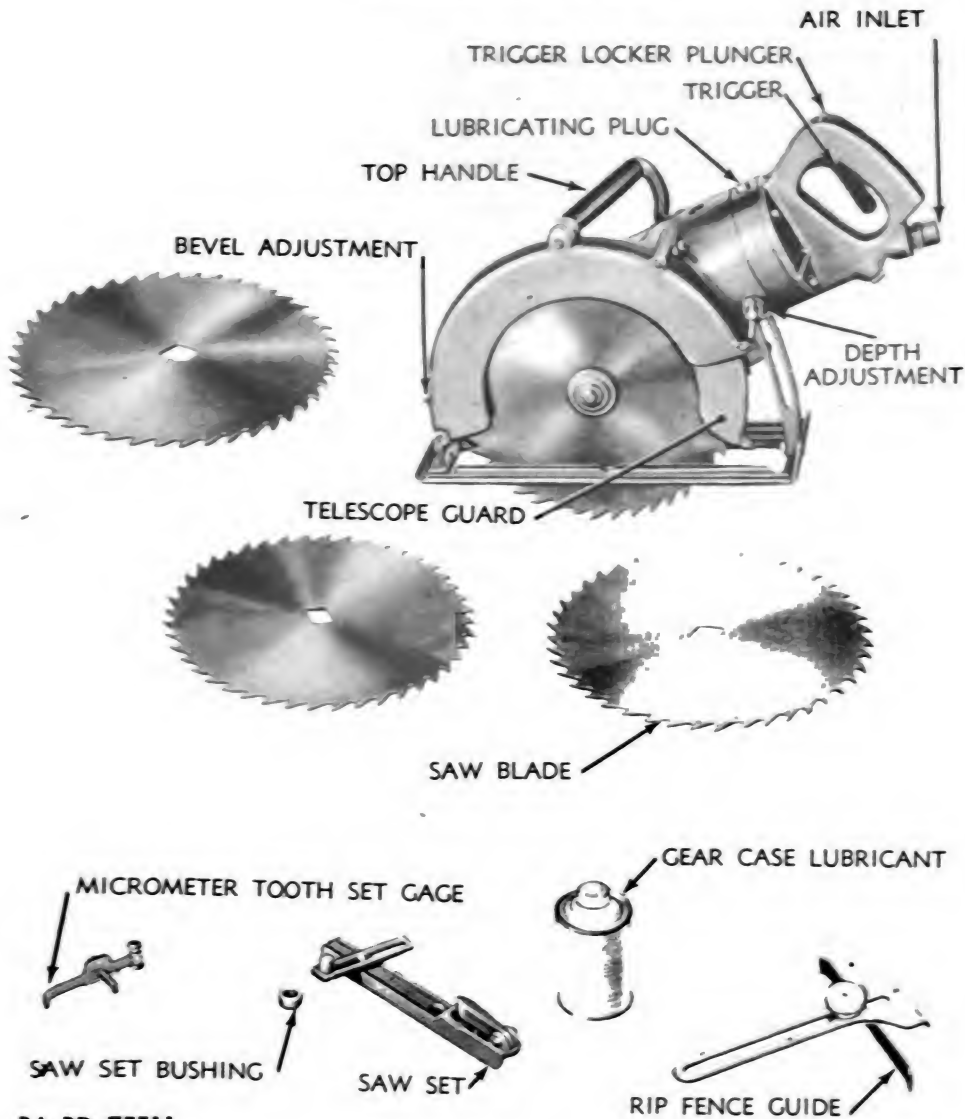

Figure 47 — Circular Saw
15. DESCRIPTION AND FUNCTIONING (fig. 47).
- (1) Loosen depth adjustment wing nut (fig. 47) and adjust saw to desired depth of cut. Tighten wing nut.
- (2) Loosen bevel adjustment wing nut (fig. 47) and tip saw to desired angle. Tighten wing nut. *NOTE: If considerable ripping is to be done, install rip fence guide on tapped hole about 2 inches back of front of foot on blade side by means of wing screw. Adjust guide to desired width (minimum 1½ in., maximum 7¼ in.).*
- (3) Blow out air hose. Connect air hose to tool.
(a) Check tooth set with micrometer tooth set gage (fig. 47). Place micrometer tooth set gage on flat surface of saw blade with gage's three stationary legs all contacting saw blade. Adjust micrometer thimble until adjustable point beneath thimble just contacts surface of saw blade. Note reading of thimble screw which is graduated in thousandths of an inch. It will probably read somewhere between minus 0.003 and plus 0.003 inch. This is gage's neutral reading and represents corrections which must be made on reading of gage. If blade is to have a set of 0.020 inch and neutral reading of thimble is minus 0.003 inch, reading when the thimble screw point contacts blade point should be 0.017 inch. If neutral reading is plus 0.003 inch, then reading at blade should be 0.023 inch.
(d) Place saw set (fig. 47) in a vise or attach it securely to a bench. Lay saw blade on saw set with center hole on adjusting arm. Place saw set bushing on hub in center hole of saw blade. Move adjusting arm in or out until die and anvil appear to give blade point proper set. Lift blade carefully from saw set and tighten adjustable bracket set screw. Replace blade on saw set.